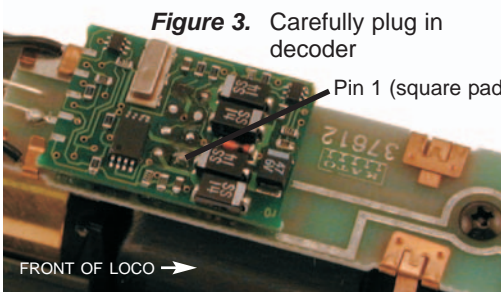

Figure 3. Carefully plug in decoder
3. Plug the DH163IP decoder into the socket making sure that pin one is plugged into the socket marked 1. (*Fig. 3*) Pin 1 on the decoder has a square pad. Seat the decoder firmly in the socket.